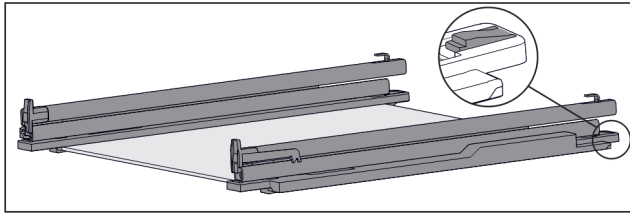

Fig. 110 Glass shelf with rails and retaining parts
- ▶ Press down retaining part at the rear (see Fig. 110) and simultaneously push rail back.